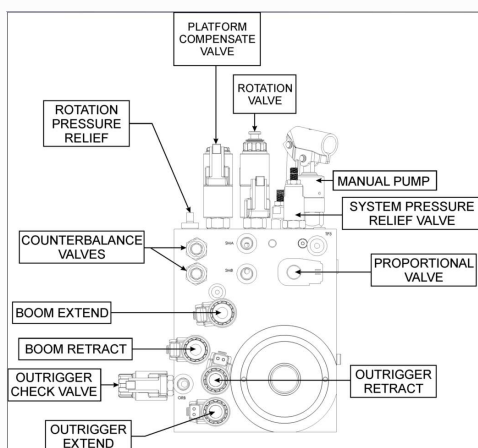

Figure 1.17
3. Remove bolts (3) from under the power unit compartment that hold the hydraulic power unit in place.
5. Rotate the hydraulic power unit to provide easier access to the hoses and plugs attached to the pump. Tag and number all hydraulic hoses that attach to the hydraulic power unit. Use a marker to label where each of the hose attaches. Refer to figure 1.17 and 1.18.